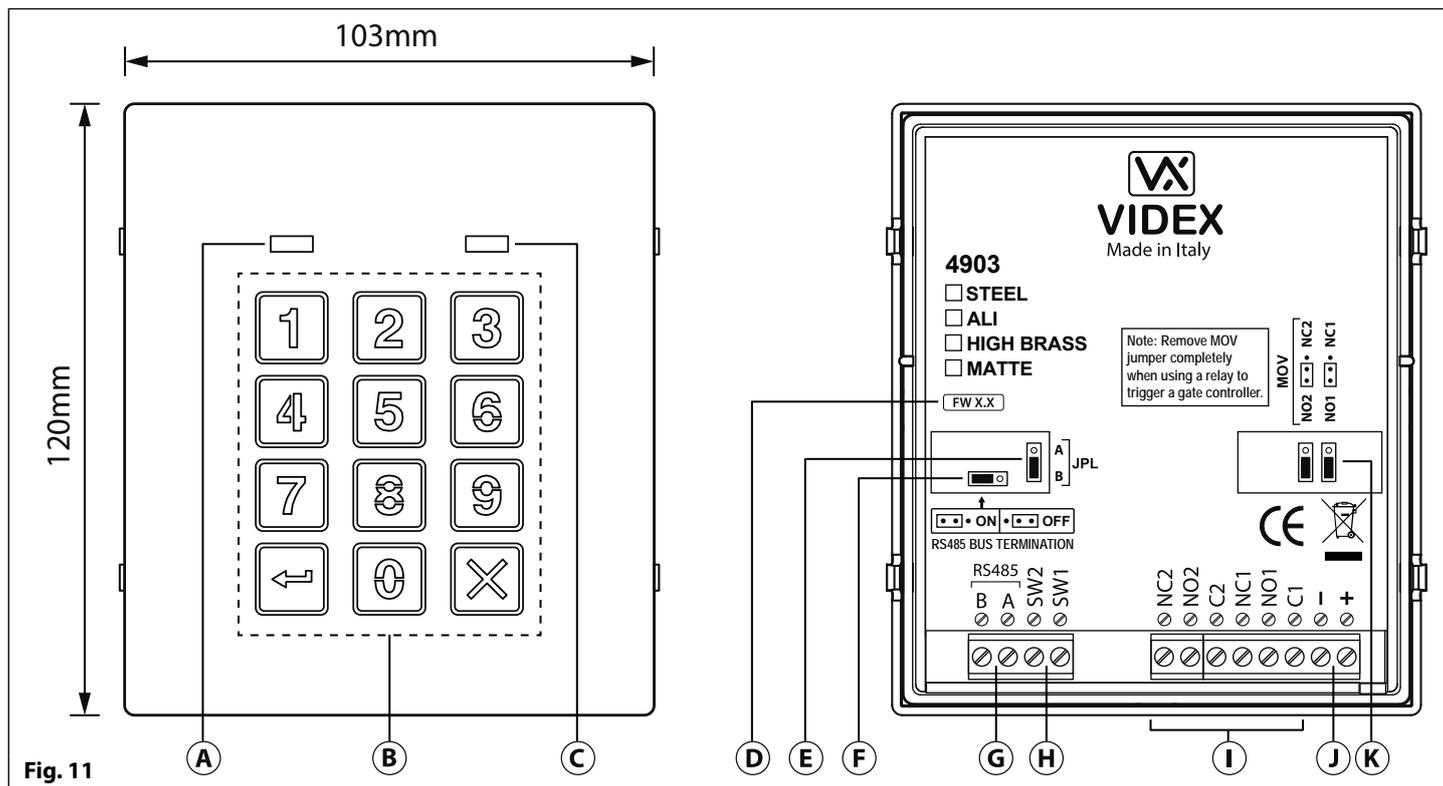

Fig. 11
The module features 12 stainless steel buttons, backlit in blue (keys 0-9, ENTER  and CLEAR ), 2 LED's (green LED = data, red LED = status indication) for progress information during use and programming and a stainless steel or aluminium front plate, see Fig.11. With two integral relays (RLY1 and RLY2) each with common (C), normally open (NO) and normally closed (NC) connections and two switched 0V push to exit inputs SW1 and SW2 to enable the external triggering of the relays. Key presses are signalled acoustically while each button press has a tactile feel. Entering the correct code followed by ENTER  will activate the relevant relay.
The jumper JPL (**Fig.11, (E)**) is used to adjust the brightness and determine the operation of the backlit buttons. There are four brightness settings for the backlit buttons and two programming modes (mode 1 and 2) for the jumper.
4. When power is restored to the codelock wait for the module to emit a single beep and the red status LED (**Fig.11, (C)**) to flash once;
5. Listen for the confirmation tone and wait for the red status LED (**Fig.11, (C)**) to flash once again;
4. When power is restored to the codelock wait for the module to emit a double beep and the red status LED (**Fig.11, (C)**) to flash once;
3. When power is restored to the keypad the backlit key buttons will illuminate (**Fig.11, (B)**). Wait for the keypad to emit a low level tone then wait for the red status LED (**Fig.11, (C)**) to switch ON;
4. Release the 0  button then enter the unit ID required for the Art.4903 (1 - 8) using the keypad (**Fig.11, (B)**). The red status LED will switch OFF and the keypad will play a short melody. Observe the red status LED (**Fig.11, (C)**) as this will flash as many times as the unit ID being set (e.g. if the unit ID is set to ID.8 the red status LED will flash 8 times);
4. When power is restored to the code lock wait for the module to emit a beep and wait for the red status LED (**Fig.11, C**) to stop flashing;